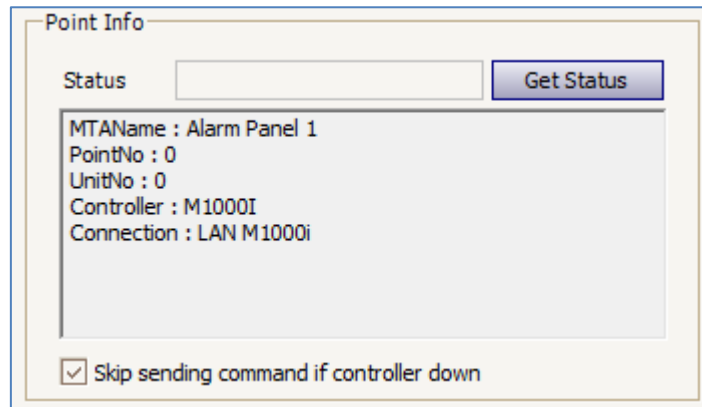

Figure 262 - Output Point Info
4. To get the status of the output, click on Get Status button (Refer **Figure 262**).